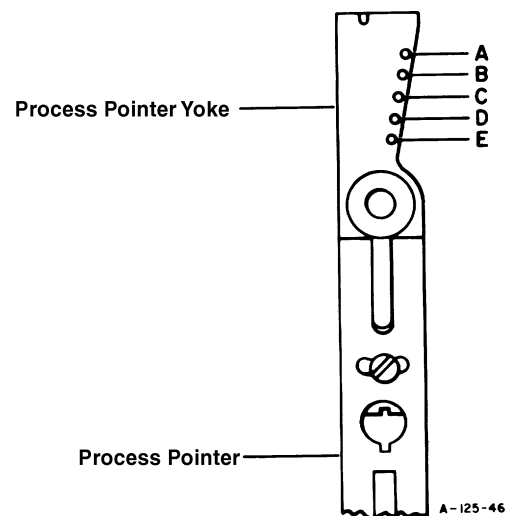

Figure 25. Ball Pivot Designations
MEASURING ELEMENT	NORMAL PIVOT (FIGURE 25)
2. To change linearity adjustment, select another ball pivot on right end of process link, Figure 25.